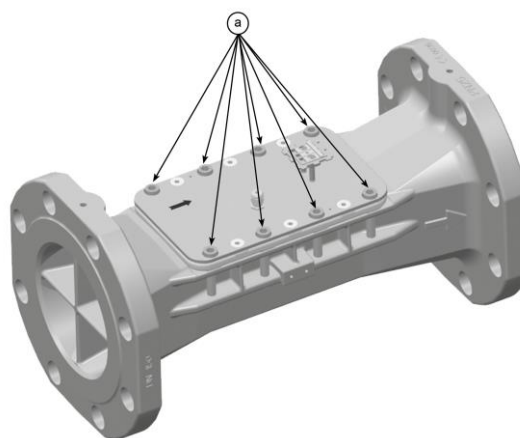
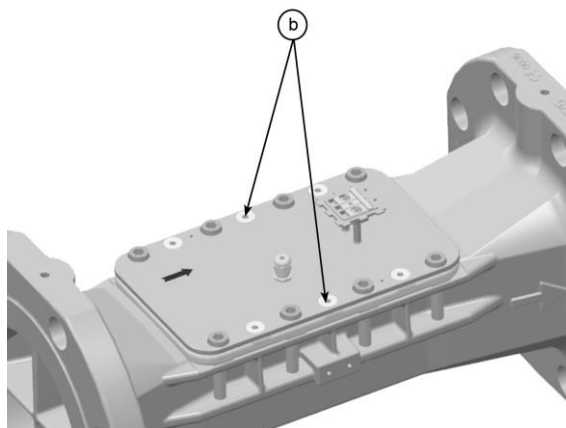

Fig. 15: Screws "a"
Fig. 16: Screws "b"
- Loosen the screws "a" (see figure 15).
- Loosen the 2 screws "b" (see figure 16).
- Screw in the 8 screws "a" (see figure 15) with 35 Nm.
Warning: All screws "a" (see figure 15) and "b" (see figure 16) must be screwed.